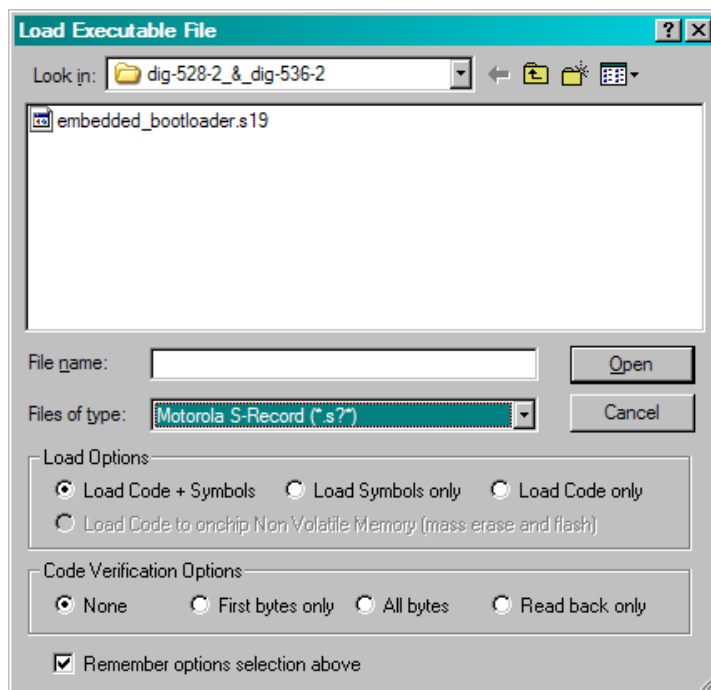

Figure 3-8. Load Executable Window
- Under the File menu, click on Load Application to open the Load Executable File window as shown in Figure 3-8. Select Freescale S-Record (*.s19) using the Files of type: drop down menu. Navigate to the folder where the Embedded Bootloader.s19 file is located. Select the file and click the Open button.